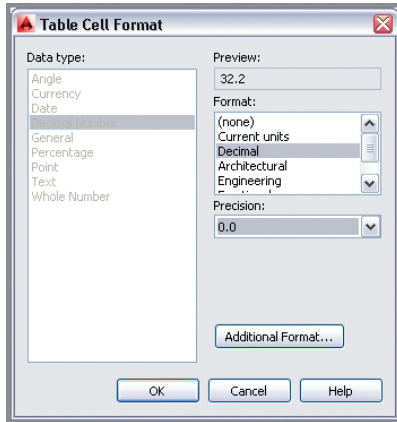

FIGURE 15.29 Formatting a range of cells
7. Select Decimal in the Format list in the Table Cell Format dialog box. Open the Precision drop-down menu, and select 0.0 (see Figure 15.29). Click OK.